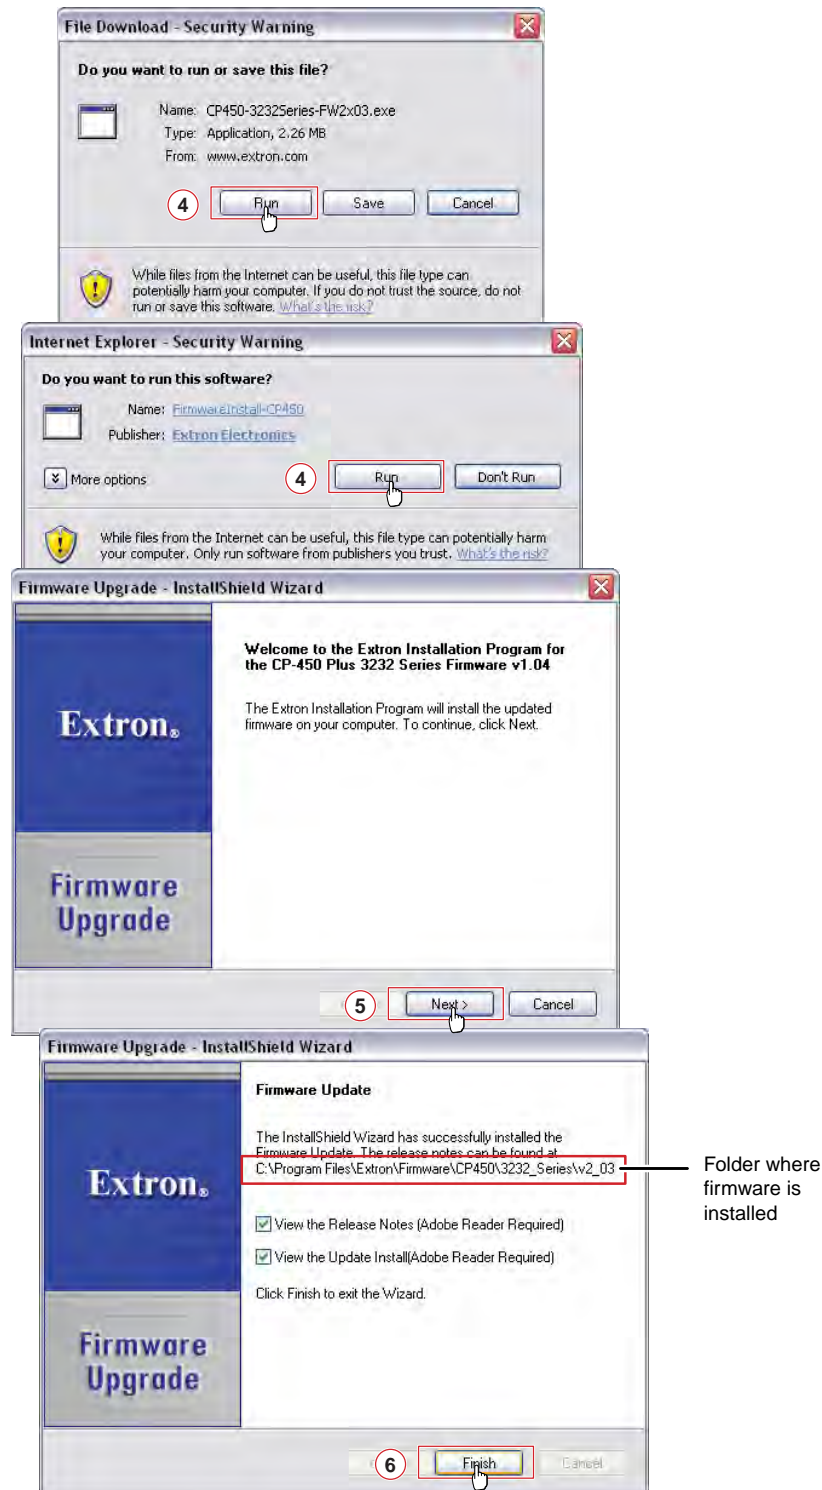

Figure 68. Downloading Firmware Upgrade Files
2. Click **Run** in the File Download and Security Warning dialog boxes (see **figure 68** on the next page). The PC downloads the firmware update from the Extron website and starts the Extron Installation Program to extract the firmware file.